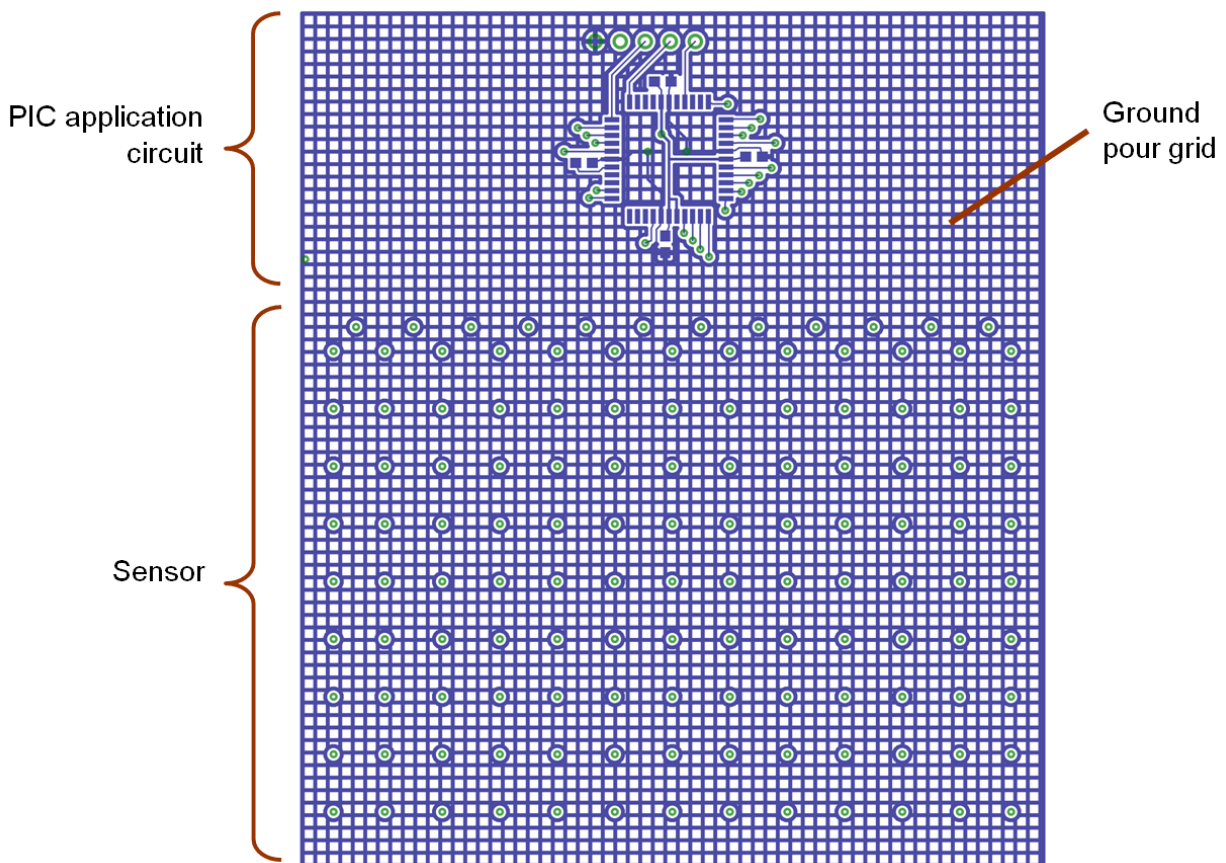

Figure 8 : PCB Example – Top Layer Copper
- Figure 8 : PCB Example – Top Layer Copper.....8*